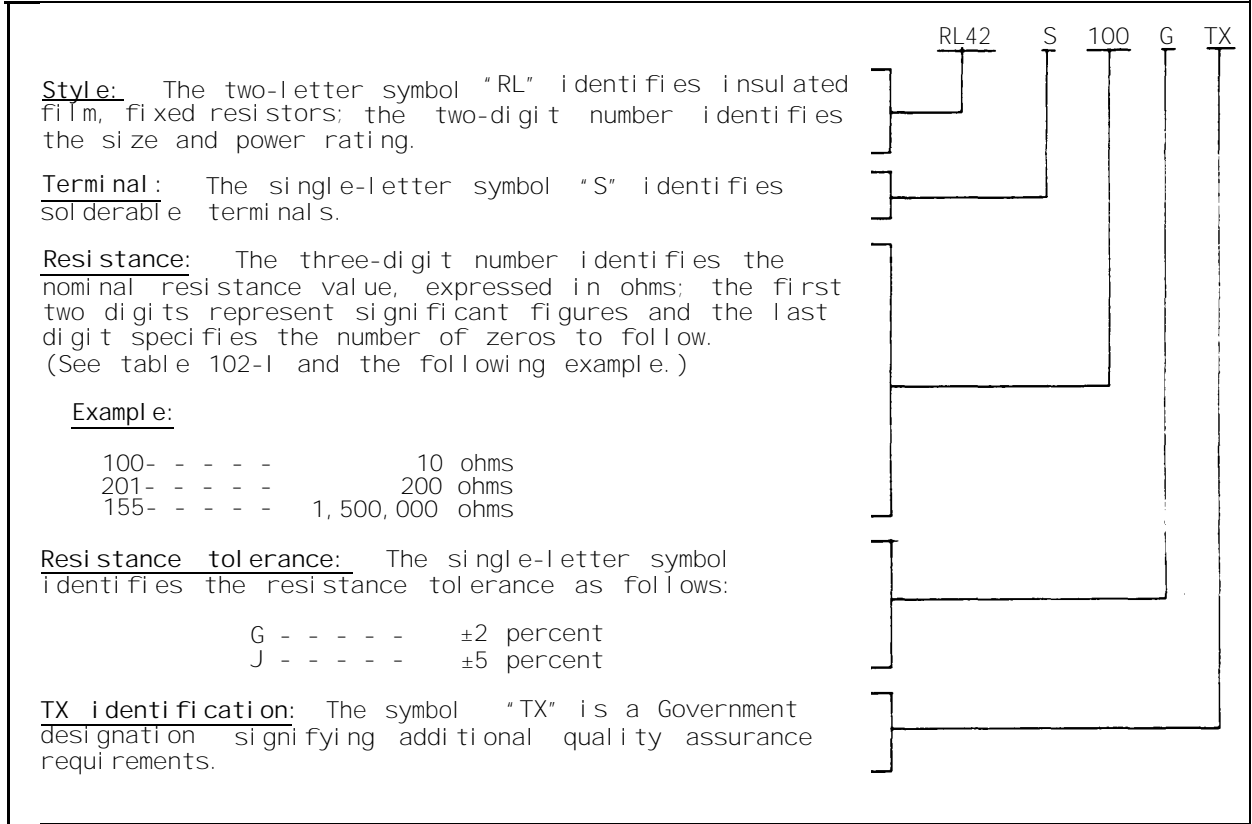

FIGURE 102-3. Type designation example.
3.2 Type designation (for reference only). The type designation is used for describing the resistor as shown on figure 102-3.